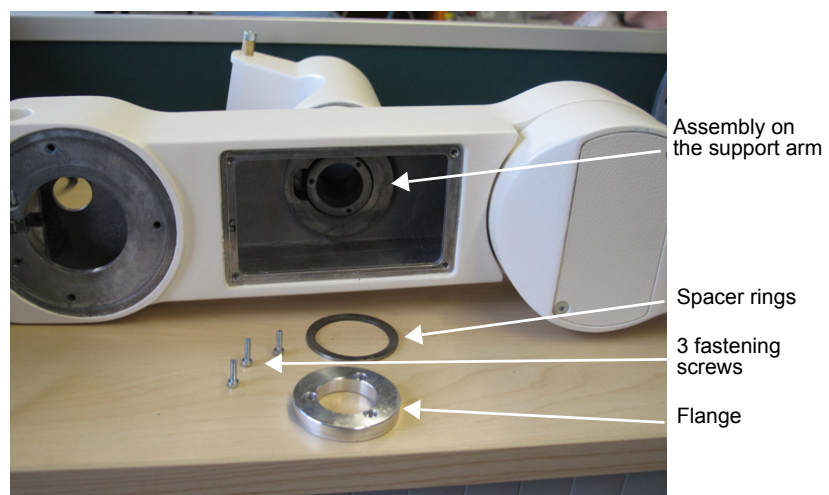

Fig. 4-7 Support arm with Solo Center from below
- Apply the spacer rings and the flange (→ Fig. 4-7).